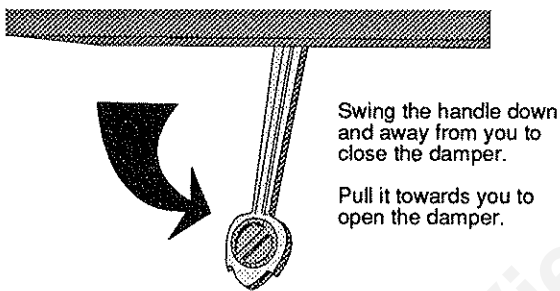

Figure 1. Damper operation.
1. **Damper** - The fireplace is shipped with the damper in the closed position. Pull the cast iron damper lever forward to open the damper plate. Push the lever all the way to the rear to engage it in the closed position. See Figure 1.